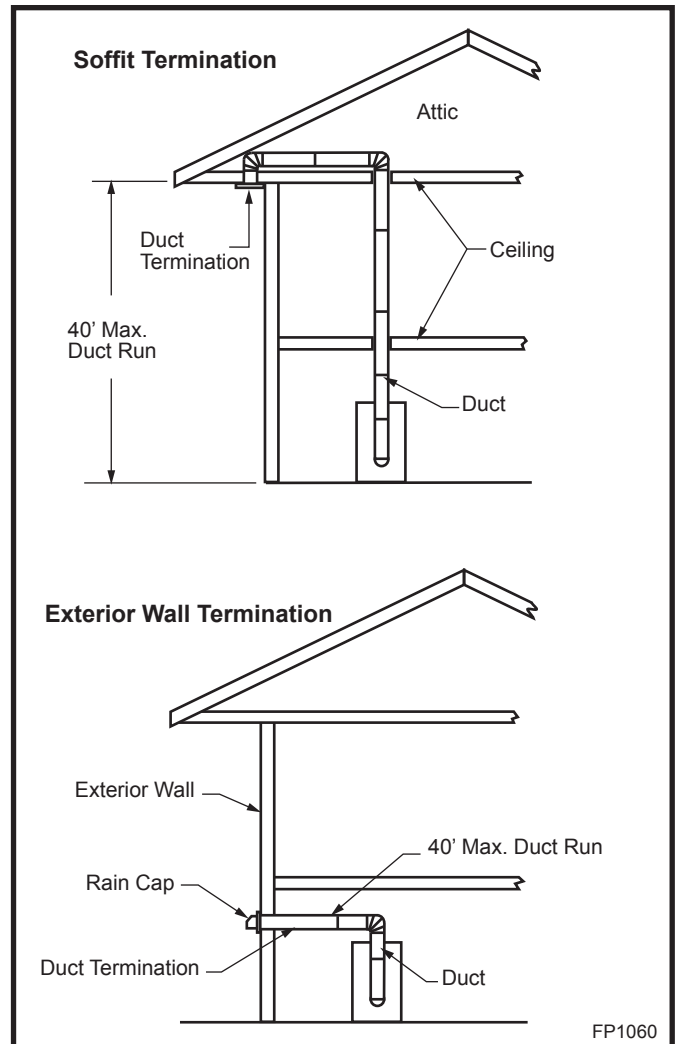

Fig. 12 Typical outside air installations.
Duct run must be limited to a maximum distance of 40' (12.2m) from the fireplace pipe collar to duct termination. This will provide the least restriction to air flow. No more than four (4) 90° elbows can be used. Duct run may be horizontal, vertical, inclined or any combination of these. (Fig. 12) You are now ready to install the Outside Air Kit.